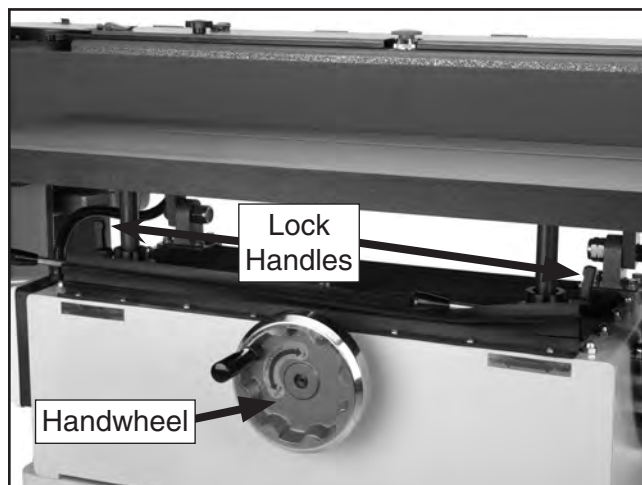

Figure 16. Height adjustment controls.
2. Turn table height adjustment wheel shown in **Figure 16**, clockwise to raise table or counterclockwise to lower table.